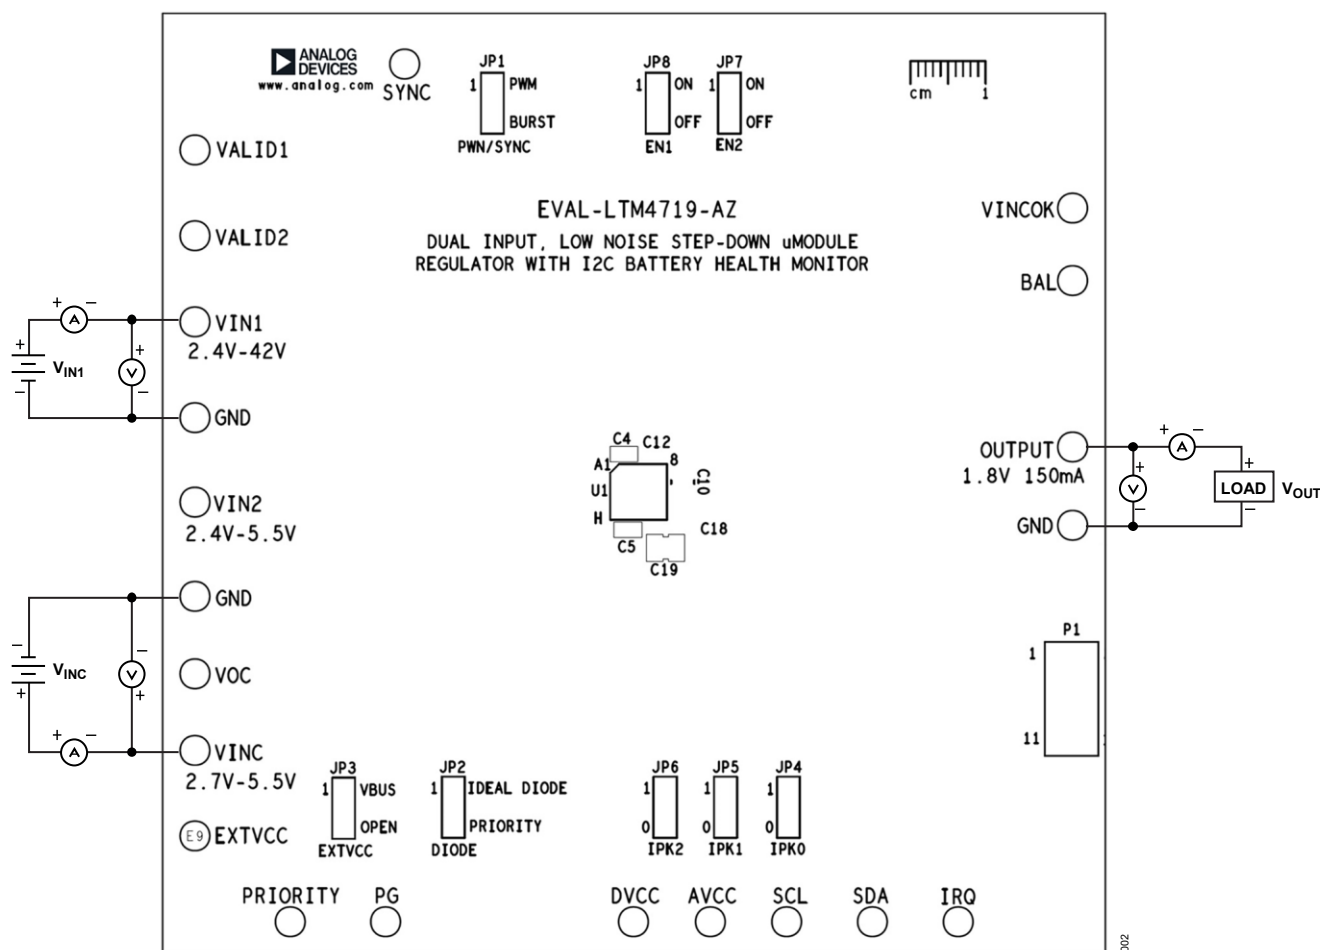

Figure 2. Test Setup of EVAL-LTM4719-AZ
The EVAL-LTM4719-AZ evaluation board provides an easy way to evaluate the performance of the LTM4719 μ Module. See Figure 2 for test setup connections and use the following procedure.
- With power off, connect the load, input voltage supplies, and meters, as shown in Figure 2.